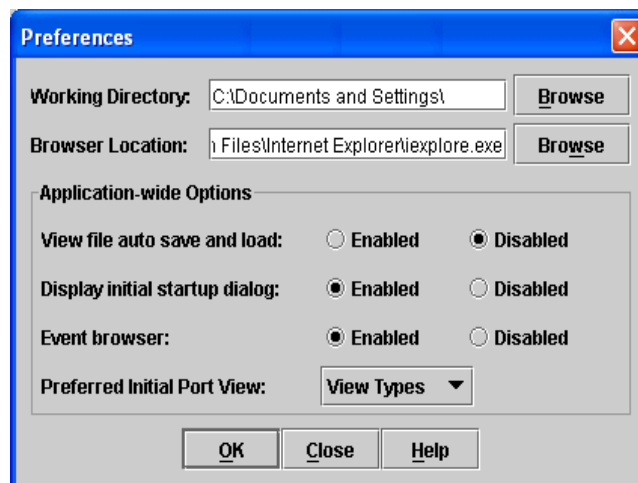

Figure 2-5. Preferences Dialog – SANsurfer Switch Manager
- Enable (default) or disable the Event Browser. Refer to "Displaying the Event Browser" on page 3-11. If the Event Browser is enabled using the Preferences dialog shown in Figure 2-5, the next time SANsurfer Switch Manager is started, all events will be displayed. If the Event Browser is disabled when SANsurfer Switch Manager is started and later enabled, only those events from the time the Event Browser was enabled and forward will be displayed.